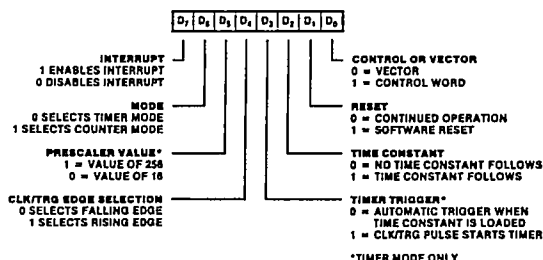

Figure 5. Channel Control Word
**Channel Control Word Programming.** The channel control word is shown in Figure 5. It sets the modes and parameters described below.